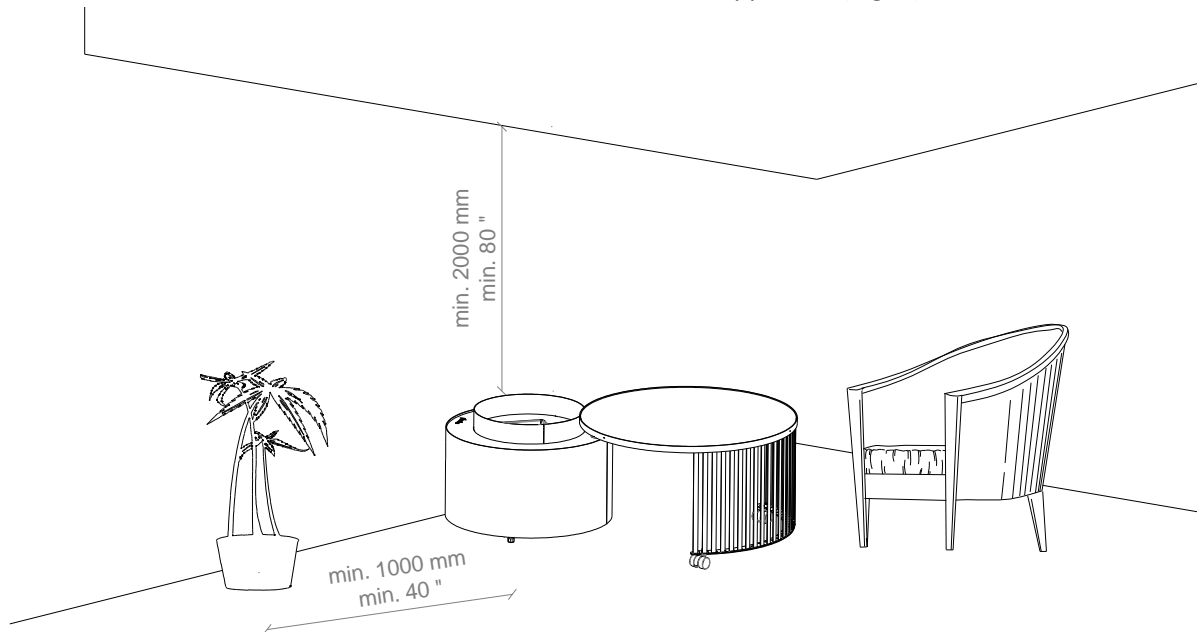

Fig. 1: Minimum distance to flammable materials
- This appliance must be kept away from flammable materials during use. Do not place any combustible materials within a distance of 1 m of Moon and 2 m over the appliance (Fig. 1).